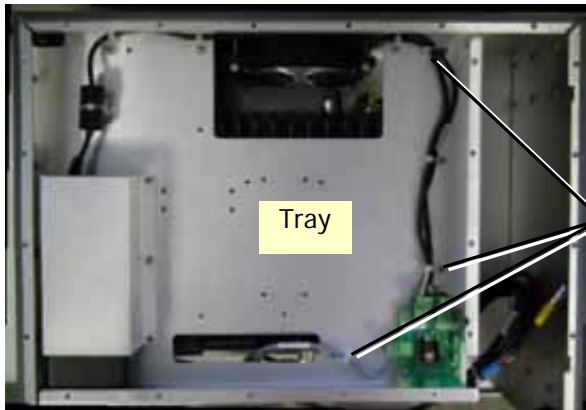

Figure 4-1. Top View of Tray Connections
3. Refer to Figure 4-1 - (temporarily) remove the tray: